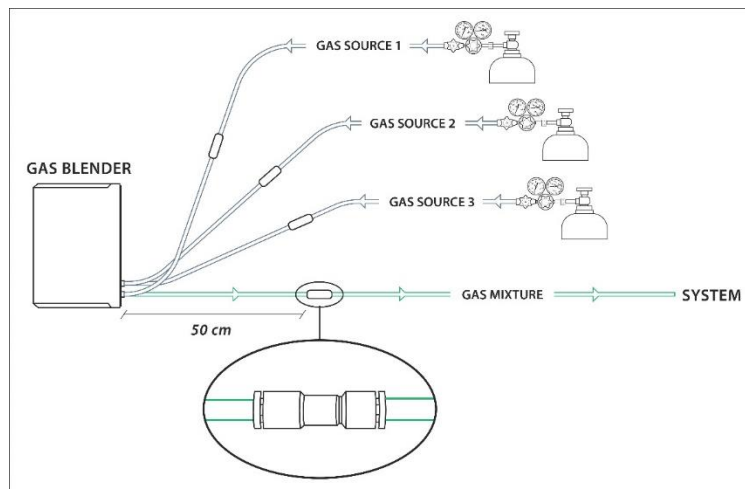

Figure 3-12
- 5. Gas Blender Outlet** - Another One Touch valve must be positioned at a distance of 50 cm from the Gas Blender outlet to secure a proper working of the instrument. Take the 50 cm long tube and connect one end with the one touch valve, then connect the other end to your system, as shown in the pictures below (Figure 3-12).